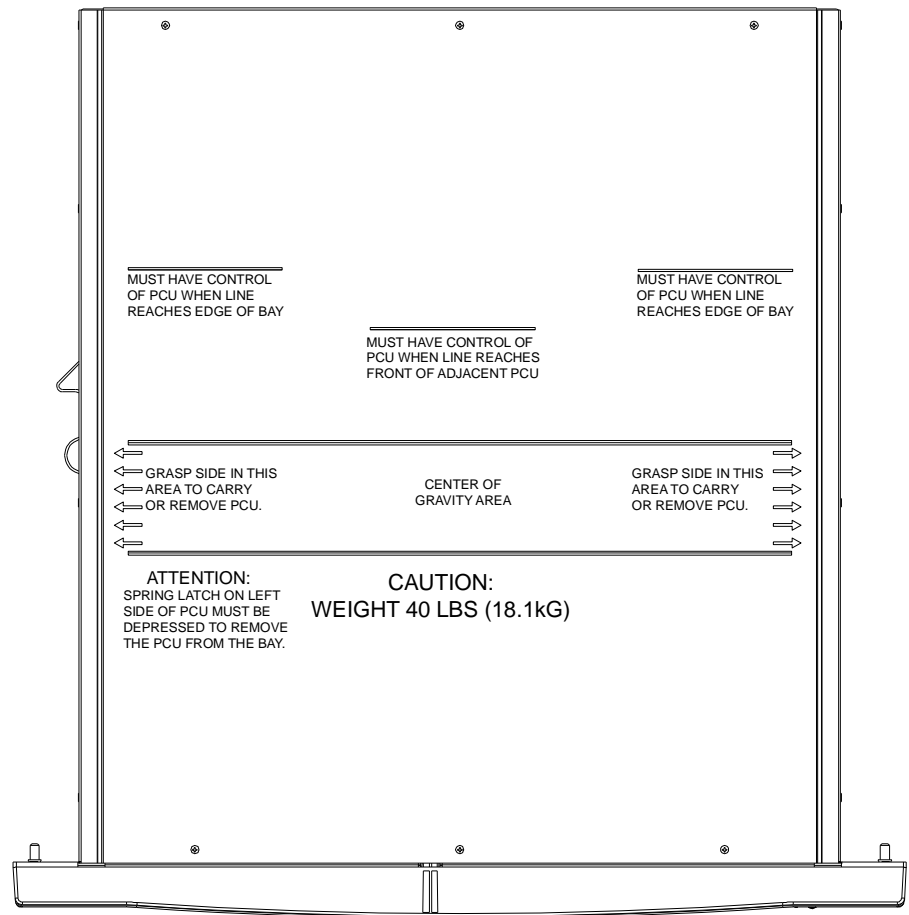

Figure 6-1
- 4) Loosen the captive fasteners on the front of the Rectifier to be removed. Use the handle provided on the front of the Rectifier, and pull the Rectifier out until it is stopped by a safety latch located on the left-hand side panel of the Rectifier. Refer to Figure 6-1 for latch and release location. Depress and hold the latch release, and remove the Rectifier from the shelf. Support the bottom of the Rectifier as you pull it out. **Observe the instructions on top of the Rectifier as you remove it.**